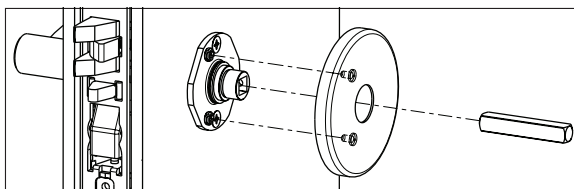

Figure 5-5T
4. Install spindle and rose by aligning studs on rose with bushings in adapter plate. (Figure 5-5T)